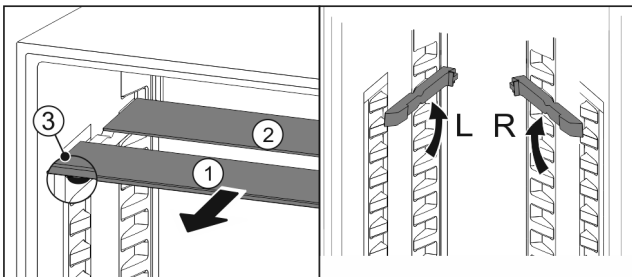

Fig. 147
- ▶ Pull the glass panels out Fig. 147 (1) from the front, one at a time.
- ▶ The glass panel Fig. 147 (1) and trim strip are at the front.
- ▶ The stops Fig. 147 (3) point down.